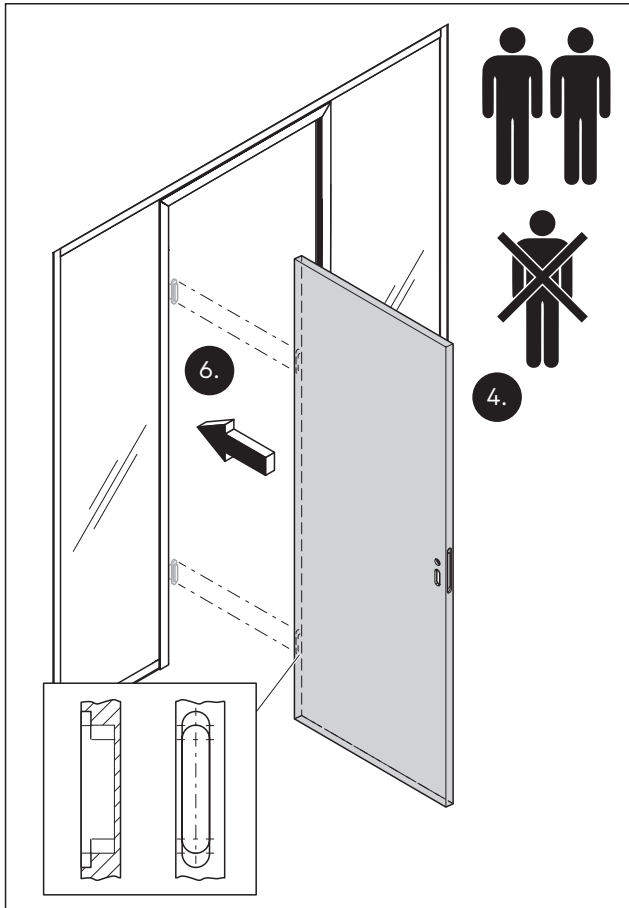

Fig. 46 Mount the wooden door with the TECTUS door hinges on the door frame
4. Working in a pair, lift the wooden door and put it in the mounting position (Fig. 46).